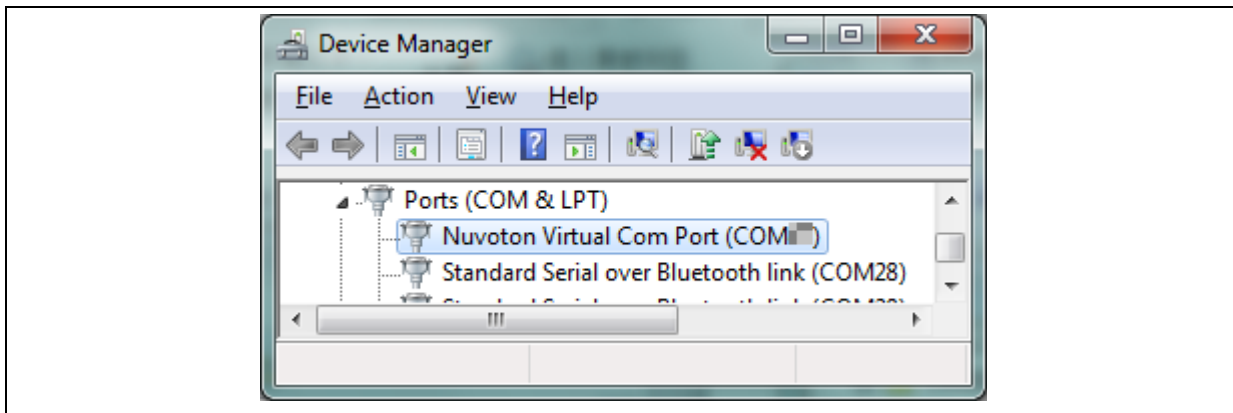

Figure 4-5 Device Manger
- 3. Find the “Nuvoton Virtual COM Port” on the Device Manger as Figure 4-5.